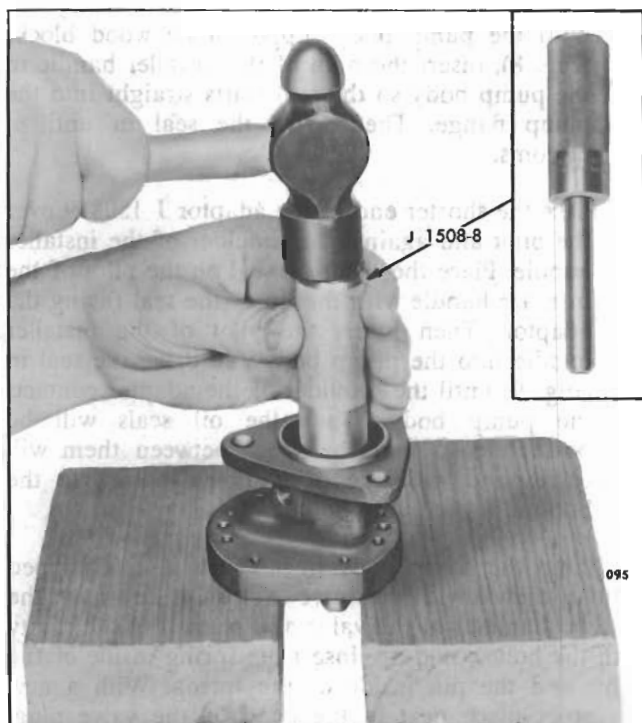

Fig. 8 - Installing Inner Oil Seal
- b. With the pump body supported on wood blocks (Fig. 8), insert the pilot of the installer handle in the pump body so the seal starts straight into the pump flange. Then drive the seal in until it bottoms.